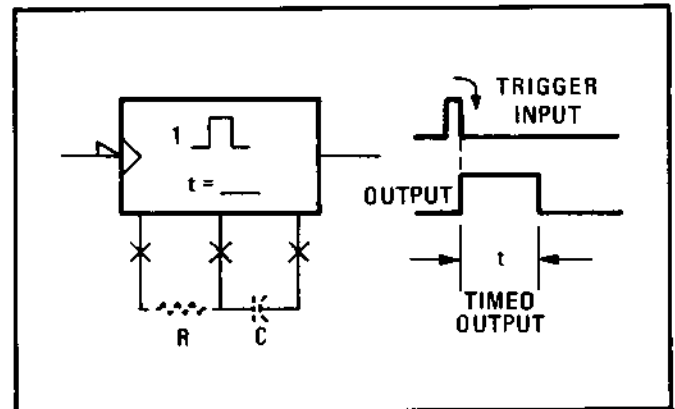

Figure 8-115. One-Shot Multivibrator
The one-shot or monostable multivibrator, when triggered, produces a pulse of pre-programmed length. The length of the pulse is determined by the external resistor (R) and capacitor (C). See Figure 8-115.